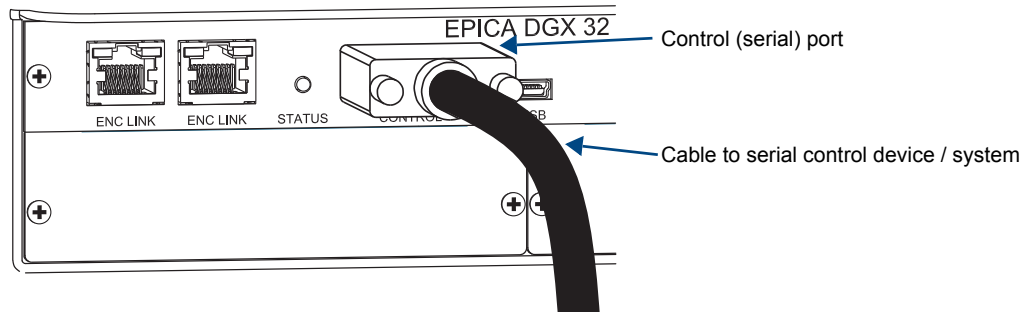

FIG. 18 Null modem serial cable connected to Control port
1. Plug one end of the null modem serial cable into the Control port (DB-9) on the enclosure (FIG. 18).